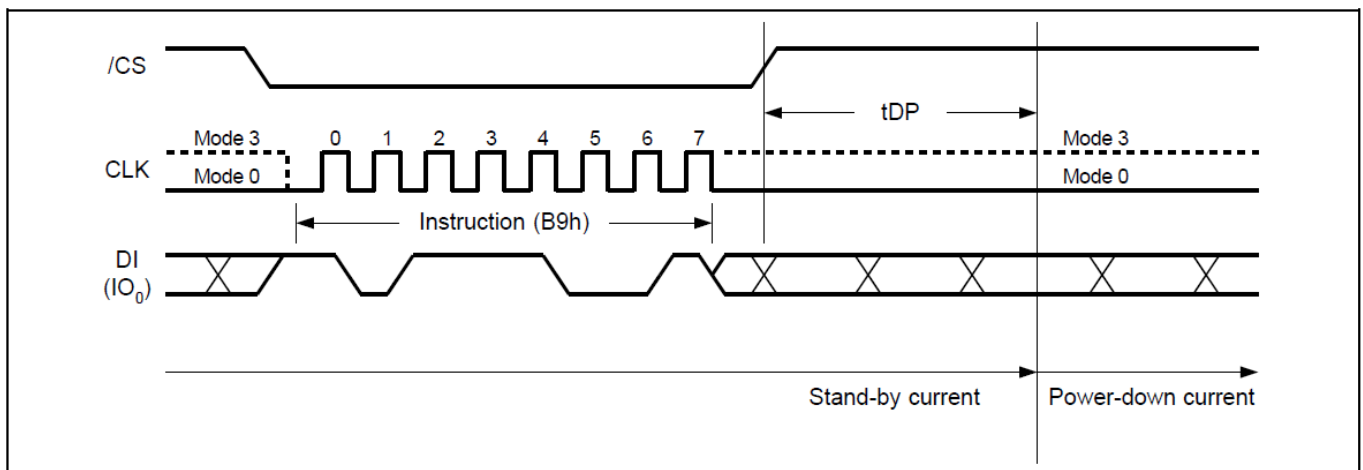

Figure19. Deep Power-Down Sequence Diagram
The Deep Power-Down Mode automatically stops at Power-Down, and the device always in the Standby Mode after Power-Up. The Deep Power-Down command sequence: CS# goes low → sending Deep Power-Down command → CS# goes high. The command sequence is shown in Figure19. CS# must be driven high after the eighth bit of the command code has been latched in; otherwise the Deep Power-Down (DP) command is not executed. As soon as CS# is driven high, it requires a delay of  $t_{DP}$  before the supply current is reduced to IDPD and the Deep Power-Down Mode is entered. Any Deep Power-Down (DP) command, while an Erase, Program or Write cycle is in progress, is rejected without having any effects on the cycle that is in progress.